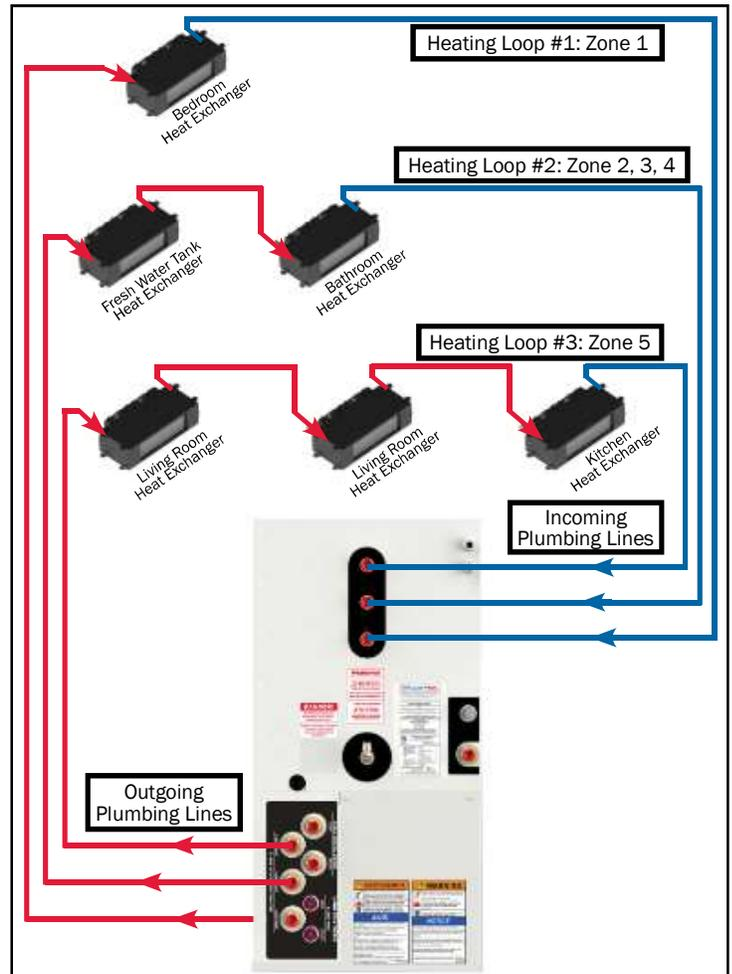

Figure 34
- See Figure 34 for reference.